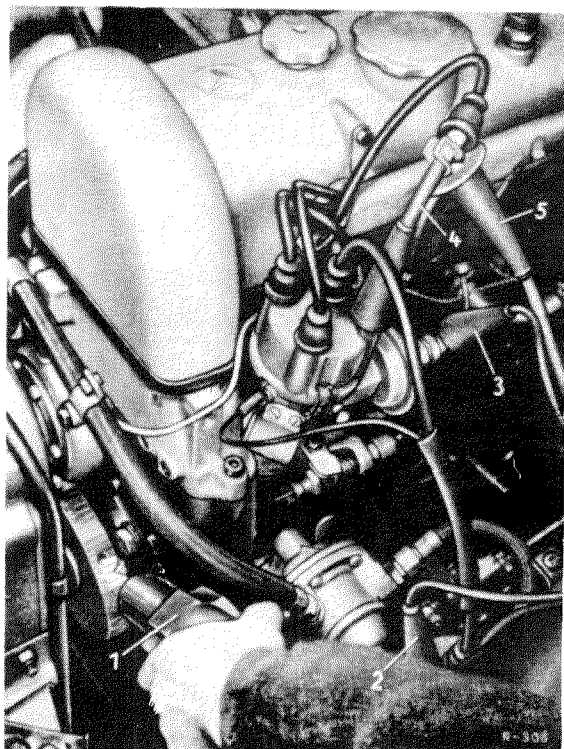

Fig. 01—3/28
Insert extension cable (4) between ignition cable and spark plug of Cylinder No. 1. Then connect Cable 5 (blue) of the stroboscope to the extension cable (Fig. 01—3/28).